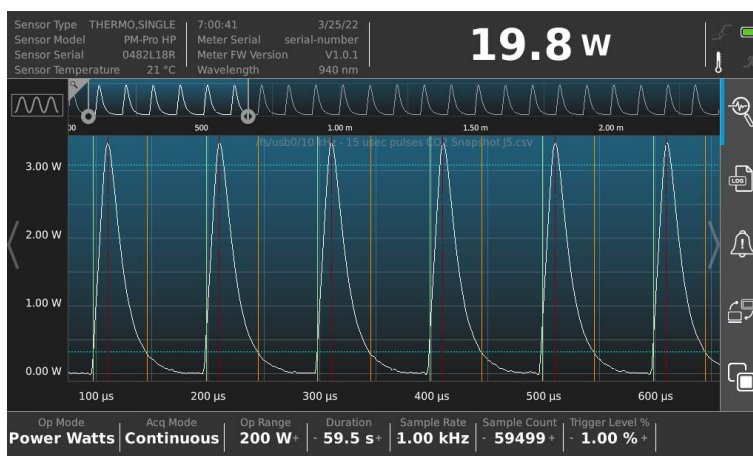

Figure 6-15. Display Trending View
6. Make sure that **Fast Channel** is selected in the **Measurement Source** field. Refer to Figure 6-15. This allows selection of sample rates up to 1MHz. It is not available for legacy sensors.
6. On the touchscreen, scroll left or right to go to the Trending view, as shown in the example in Figure 6-15.